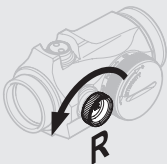
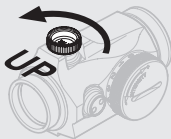

Fig. 3 Windage adjustments
Fig. 4 Elevation adjustments
- d** Use the adjustment cap (1) or the tool (12 C) to turn the adjustment screws (4) and (3). Place the knobs on the adjustment cap (1) into the recesses on the adjustment screws (4) and (3).
- e** Windage adjustments (see Fig. 3):
- Turn windage adjustment screw (4) counterclockwise to move point of impact to the right.
- Turn windage adjustment screw (4) clockwise to move point of impact to the left.
- f** Elevation adjustments (see Fig. 4):
- Turn elevation adjustment screw (3) counterclockwise to move point of impact up.
- Turn elevation adjustment screw (3) clockwise to move point of impact down.